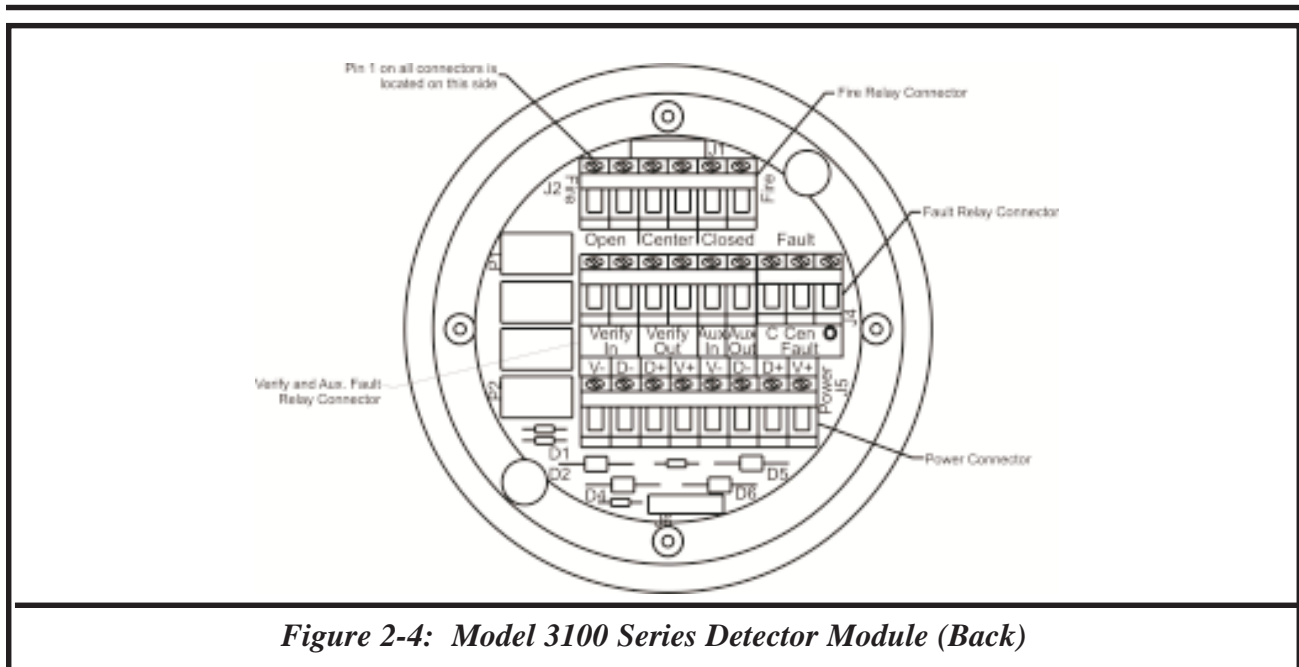

Figure 2-4: Model 3100 Series Detector Module (Back)
2.7 Relay operation (See Figure 2-4)